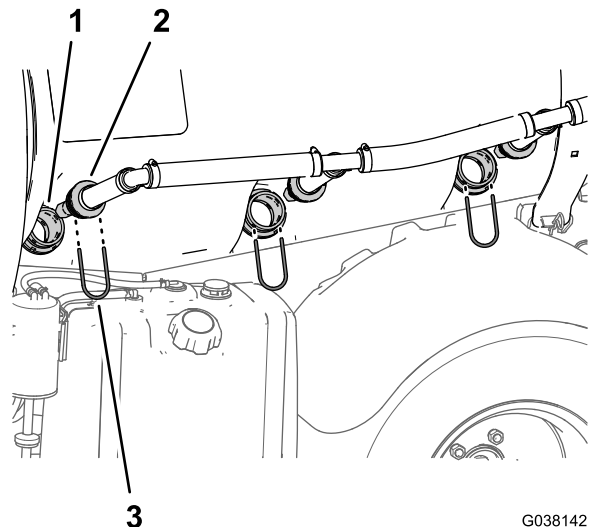

Figure 20
1. Remove the 3 retainers that secure the agitation nozzles to the bulkhead fittings at the left side of the sprayer tank (Figure 20).
2. Remove the agitation nozzles from the bulkhead fittings (Figure 20).